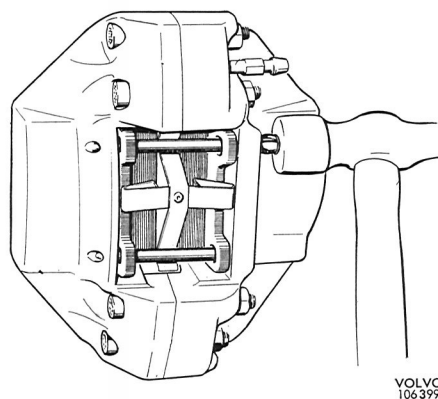

Fig. 5-18. Installation of guide pin, ATE
- 8b. ATE: Install the new pads. Place one of the guide pins in position and tap it in with a hammer without help from a tool, see Fig. 5-18. NOTE: The guide pin must not be knocked in